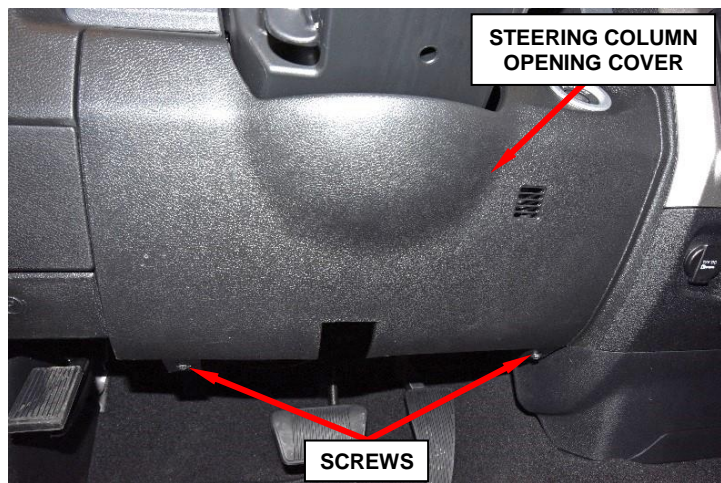

Figure 3 – Steering Column Opening Cover
4. Remove and save the two screws that secure the bottom of the steering column opening cover to the instrument panel (Figure 3).
5. Using a trim stick C-4775 or equivalent, release the eight spring clips that attach the steering column opening cover to the instrument panel (Figure 3)
43. Attach the steering column opening cover to the instrument panel with the eight spring clips (Figure 3).
44. Install the two screws that secure the steering column opening cover to the instrument panel. Tighten the screws to 3.6 N·m (32 in. lbs.) (Figure 3).